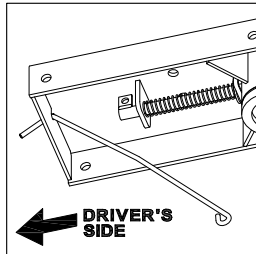

FIGURE F1: Center Section
1. Install the handle from underneath the truck by inserting it through the slot in the end of the center section toward the driver's side rear tire as shown, See Figure F1.